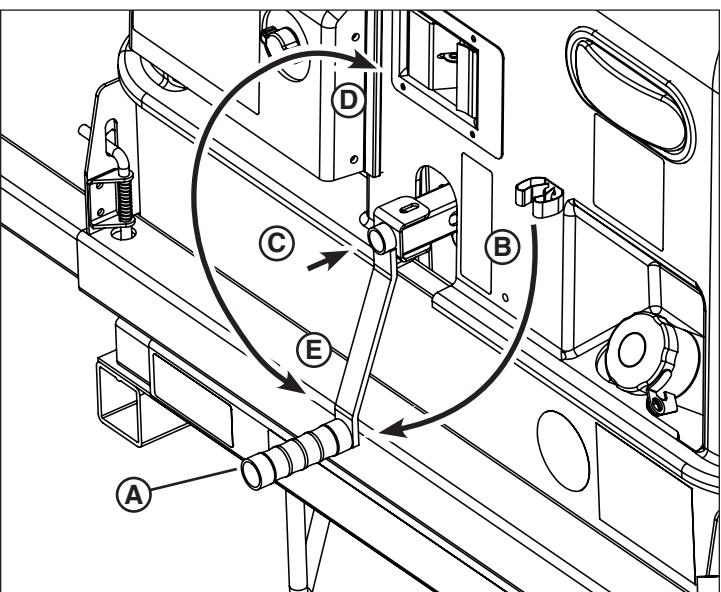

Figure 18
- Swivel the winch handle (**A**, Figure 18) out from the transport position (**B**) to the operating position.
- Turn the the winch handle clockwise (**D**, Figure 18) until the tower is fully raised. Do not overturn the handle.
- Turn the winch handle counterclockwise (**E**, Figure 18) until the tower is fully lowered. Do not overturn the handle.